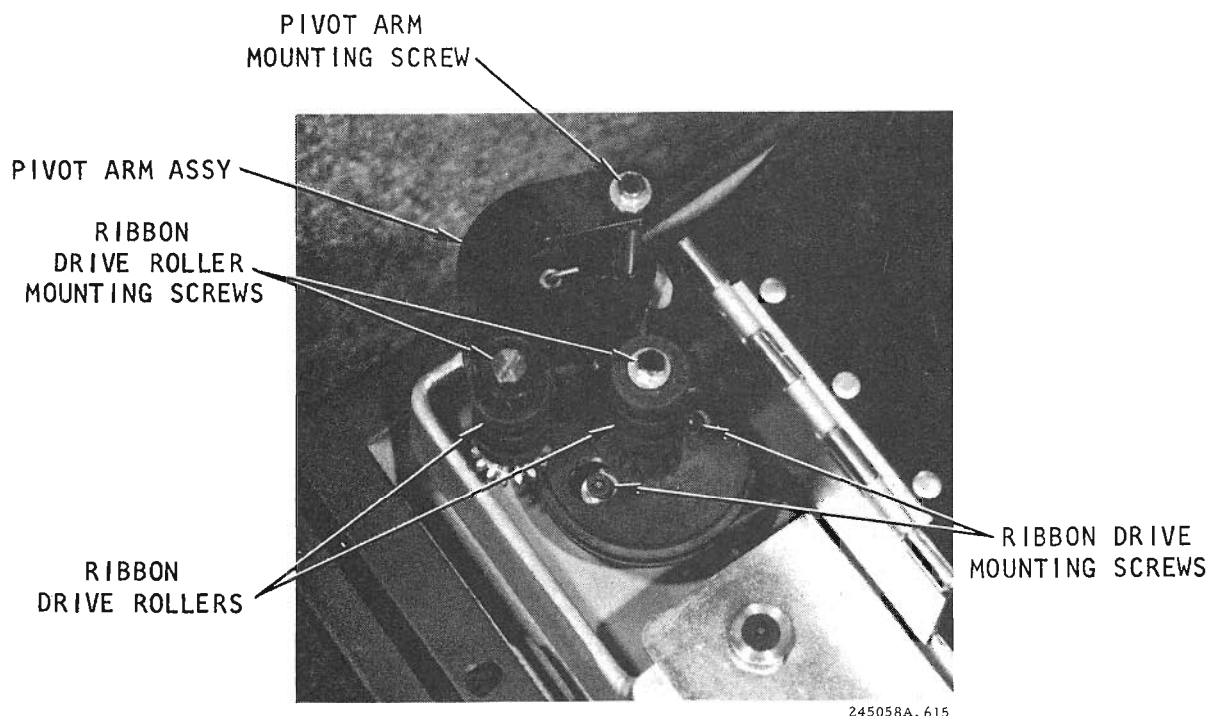

Figure 6-15. Ribbon Drive Assembly
- d. Loosen the pivot arm assembly mounting screw, lift up and swing out (see figure 6-15).
- e. Remove the two hex head mounting screws (figure 6-15), slide off the ribbon drive belt and lift out the Ribbon Drive Assembly.
Remove the mounting screw (figure 6-15) and lift out.
Insert the ribbon drive assembly into position and secure with the two mounting screws. Mount the ribbon drive belt (see figure 6-15).